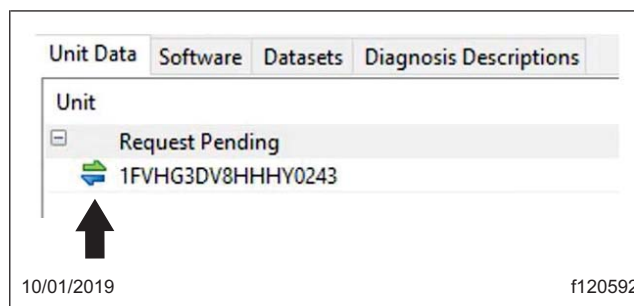

Fig. 4, Server Connection Required Symbol
11. On the "Program Device" tab, the "Server Connection Required" symbol will appear next to the VIN. See Fig. 4.